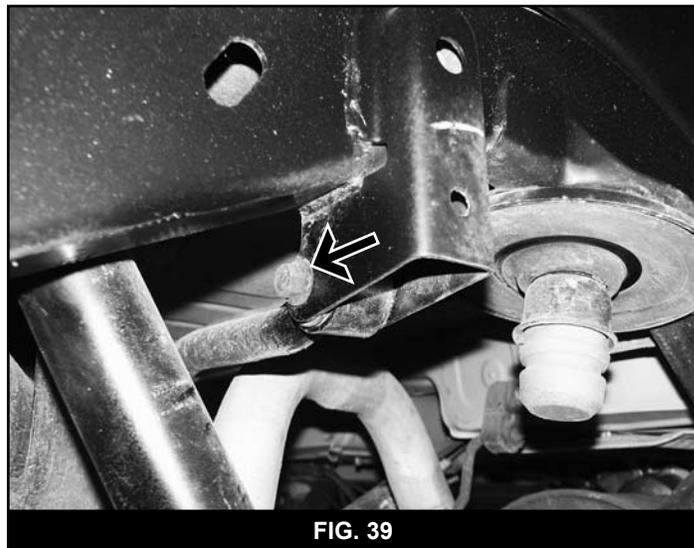

FIG. 39
17. Disconnect track bar from the passenger's side frame mount (Fig 39). Retain hardware.